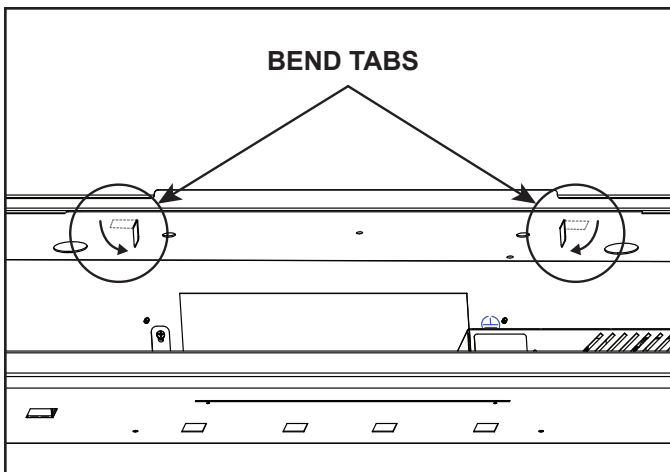

Figure 3.7 Ember Tray Tabs
3. From the underside of the display bracket shelf, bend the two tabs securing ember tray straight downward. See Figure 3.7.